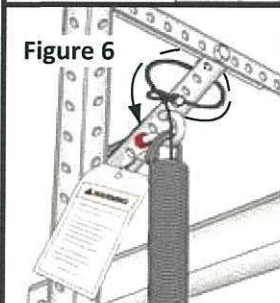

Figure 6
Step 6: Your door will be supplied with (4 or 6) cables. The longer cables are the Lifting Cables and the shorter cables are the Safety Retention Cables. Install one of the Safety Retention (shorter) Cables as shown in Figure 6 (right side). For two springs, install two Safety Retention Cables.